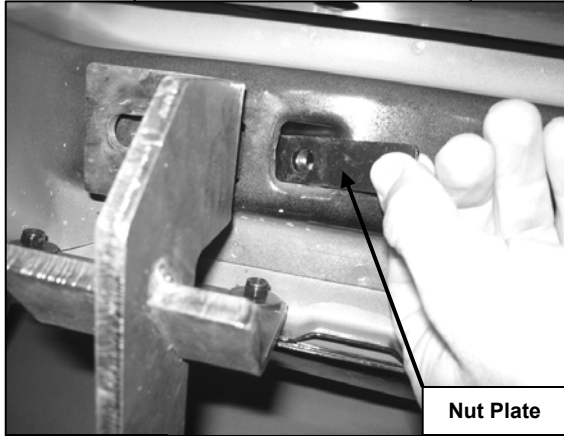

Figure 1
2. Insert a nut plate into the frame opening on the front passenger side with the nut facing up (Figure 1).